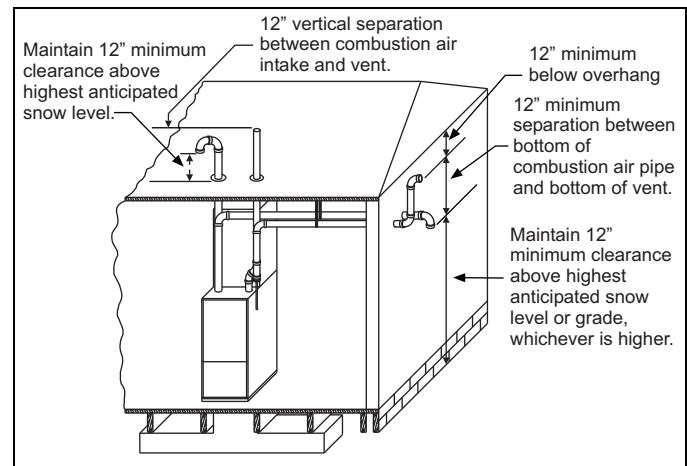

FIGURE 28: Termination Configuration - 2 Pipe
7. Direct vent systems must be installed so the vent and the combustion air pipes terminate in the same atmospheric zone. Refer to Figures 28 or 29.
The combustion air side of the two-pipe configuration shown in Figures 28 and 29 can be installed so the combustion air pipe terminates as described in outdoor combustion air or ventilated combustion air sections in these instructions. Follow the instructions for outdoor combustion air or ventilated combustion air and the instructions for installing the vent system with the vent terminating as shown in Figure 30 or 31. The two-pipe system must have a separate combustion air pipe and a separate vent pipe for each furnace. Under NO circumstances can the two combustion air or vent pipes be tied together. The combustion air and vent pipes must terminate in the same atmospheric zone.